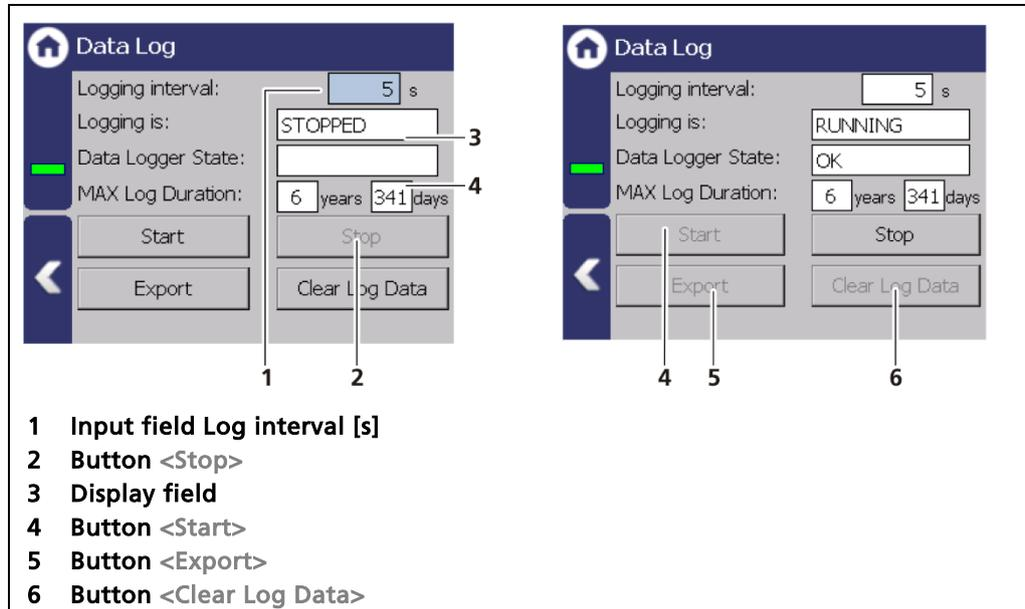

Fig. 118 Data log
1. Click on the button <Stop> (Fig. 118, item 2) to stop the data log process.
2. Click on the input field "Logging interval" (Fig. 118, item 1) and enter the time in seconds.
4. Click on the button <Start> (Fig. 118, item 4) to start the data log process.
1. Click on <Stop> (Fig. 118, item 2).
3. Click on the button <Export> (Fig. 118, Pos5).